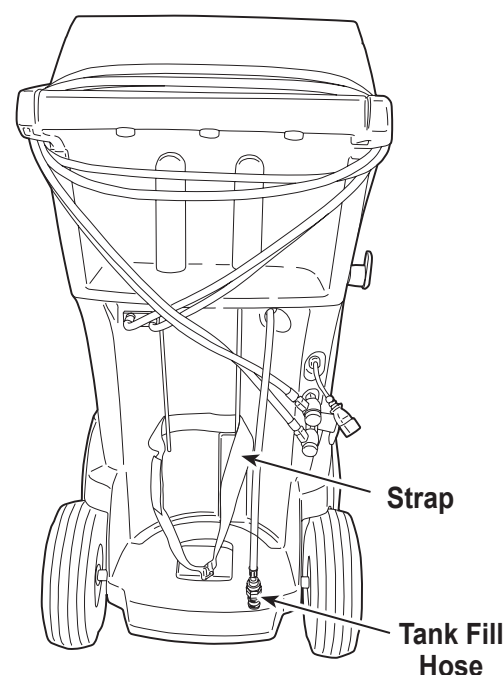

Figure 3
2. Use the strap shown in Figure 3 to secure the tank in place, being careful to not block air flow from the vents on the lower right side.